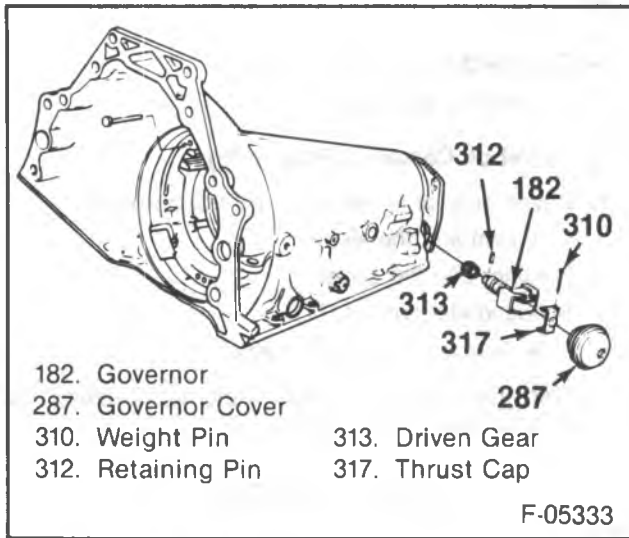

Figure 77 — Governor (THM 700-R4)
1. Governor cover (287) and the seal or gasket as used.
- THM 700-R4 (figure 77)
- Tap around the cover (287) flange with a punch.
1. Governor (182).
2. Governor cover (287) and a new seal or gasket as used.
- THM 700-R4 (figure 77).
- Put a thin coat of Loctite Cup Plug Sealant II, or equivalent, on the cover (287).